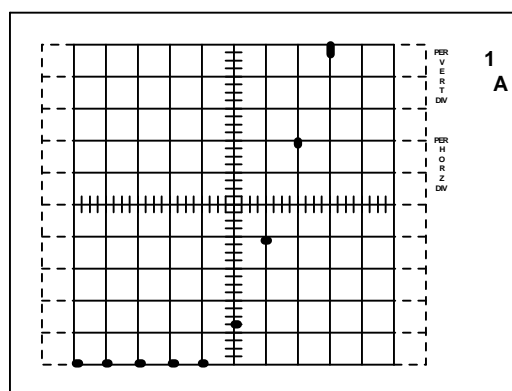

Figure 12. Transfer characteristic (I_D vs V_{GS})
4. Increase the VARIABLE COLLECTOR SUPPLY voltage to obtain the trace shown in Figure 12. The transfer characteristic is outlined by the displayed points.